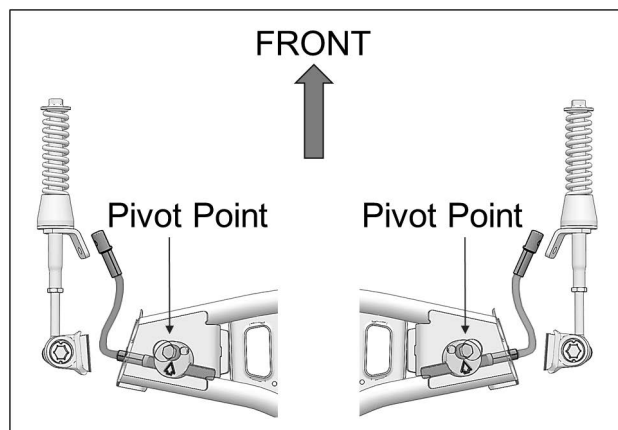

Fig. 26
16. Make sure aluminum disk pivot point is installed in front of steering limiter cable. See Fig. 26